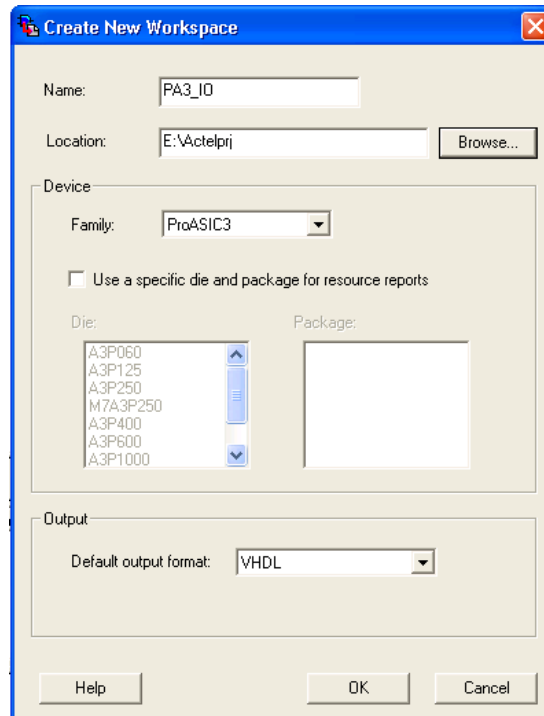

Figure 5 • Create New Workspace
3. The **Create New Workspace** window will appear (Figure 5). Type a name and select a location, family, and netlist format. Click **OK**.